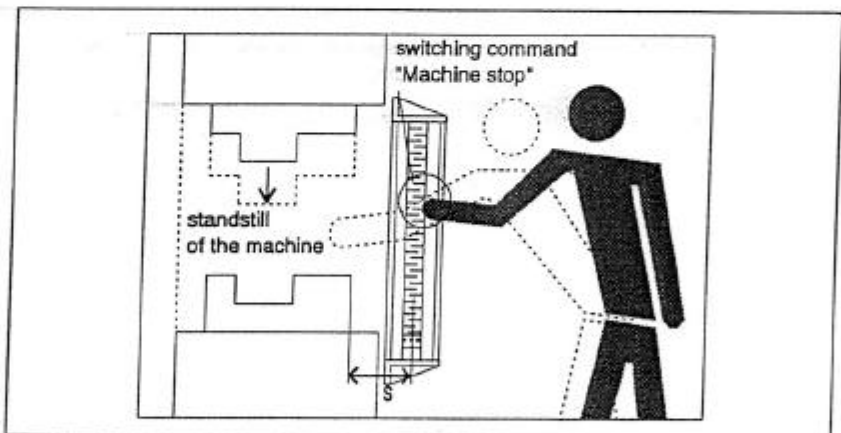

Figure 4-2 Safety distance
2. A sufficient safety distance must be maintained between the sensing zone and the nearest danger point (Figure 4-2) and
The safety light curtain must be fixed at a certain distance from the danger point, at the safety distance (see Fig. 4-2, page 4-2).